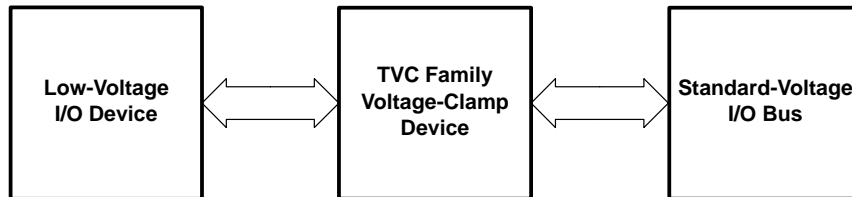

Figure 2. Thin Gate-Oxide Protection Application
The Texas Instruments (TI) translation voltage-clamp (TVC) family is designed specifically for protecting sensitive I/Os (see Figure 2). The information in this data sheet describes the I/O-protection application of the TVC family and should enable the design engineer to successfully implement an I/O-protection circuit utilizing the TI TVC solution.